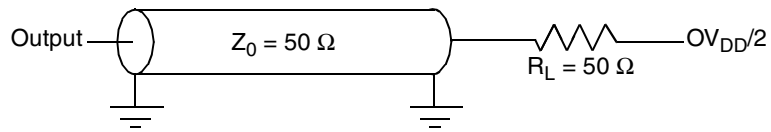
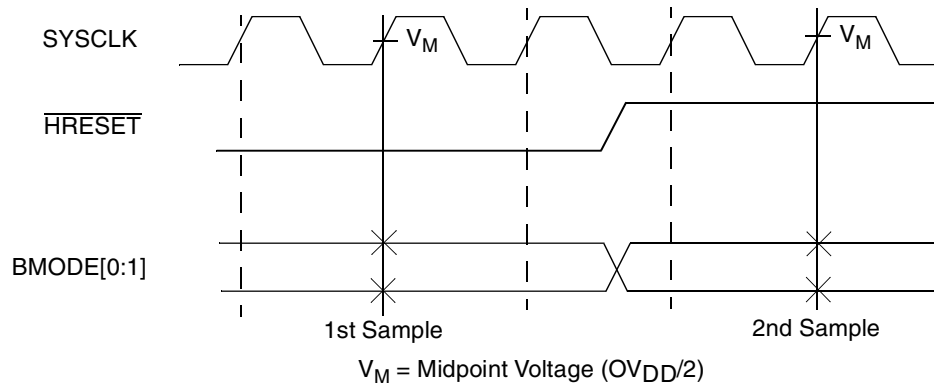

Figure 4. AC Test Load
Figure 5. $\overline{\text{BMODE}}[0:1]$ Input Sample Timing Diagram
Table 9 provides the processor bus AC timing specifications for the MPC7448 as defined in Figure 4 and Figure 5.
- All input specifications are measured from the midpoint of the signal in question to the midpoint of the rising edge of the input SYSCLK. All output specifications are measured from the midpoint of the rising edge of SYSCLK to the midpoint of the signal in question. All output timings assume a purely resistive 50- Ω load (see Figure 4). Input and output timings are measured at the pin; time-of-flight delays must be added for trace lengths, vias, and connectors in the system.
- The symbology used for timing specifications herein follows the pattern of $t_{(signal)(state)(reference)(state)}$ for inputs and $t_{(reference)(state)(signal)(state)}$ for outputs. For example, t_{VKH} symbolizes the time input signals (I) reach the valid state (V) relative to the SYSCLK reference (K) going to the high (H) state or input setup time. And t_{KHOV} symbolizes the time from SYSCLK(K) going high (H) until outputs (O) are valid (V) or output valid time. Input hold time can be read as the time that the input signal (I) went invalid (X) with respect to the rising clock edge (KH) (note the position of the reference and its state for inputs) and output hold time can be read as the time from the rising edge (KH) until the output went invalid (OX).
- $\overline{BMODE}[0:1]$ and $BVSEL[0:1]$ are mode select inputs. $\overline{BMODE}[0:1]$ are sampled before and after \overline{HRESET} negation. $BVSEL[0:1]$ are sampled before \overline{HRESET} negation. These parameters represent the input setup and hold times for each sample. These values are guaranteed by design and not tested. $\overline{BMODE}[0:1]$ must remain stable after the second sample; $BVSEL[0:1]$ must remain stable after the first (and only) sample. See Figure 5 for sample timing.
Figure 4 provides the AC test load for the MPC7448.
Figure 5 provides the $\overline{\text{BMODE}}[0:1]$ input timing diagram for the MPC7448. These mode select inputs are sampled once before and once after $\overline{\text{HRESET}}$ negation.